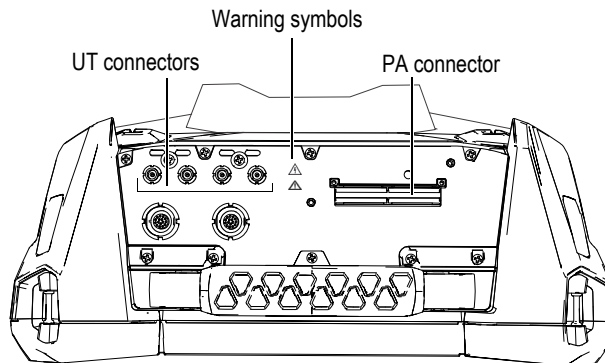

Figure 5-1 Acquisition connectors
- To reduce the risk of electric shock, avoid touching the inner conductor of the LEMO connectors. Up to 350 V can be present on the inner conductor of the UT connectors, and up to 120 V can be present on the PA connector. The warning symbols near the LEMO connectors signals this electric shock risk (see Figure 5-1 on page 59).